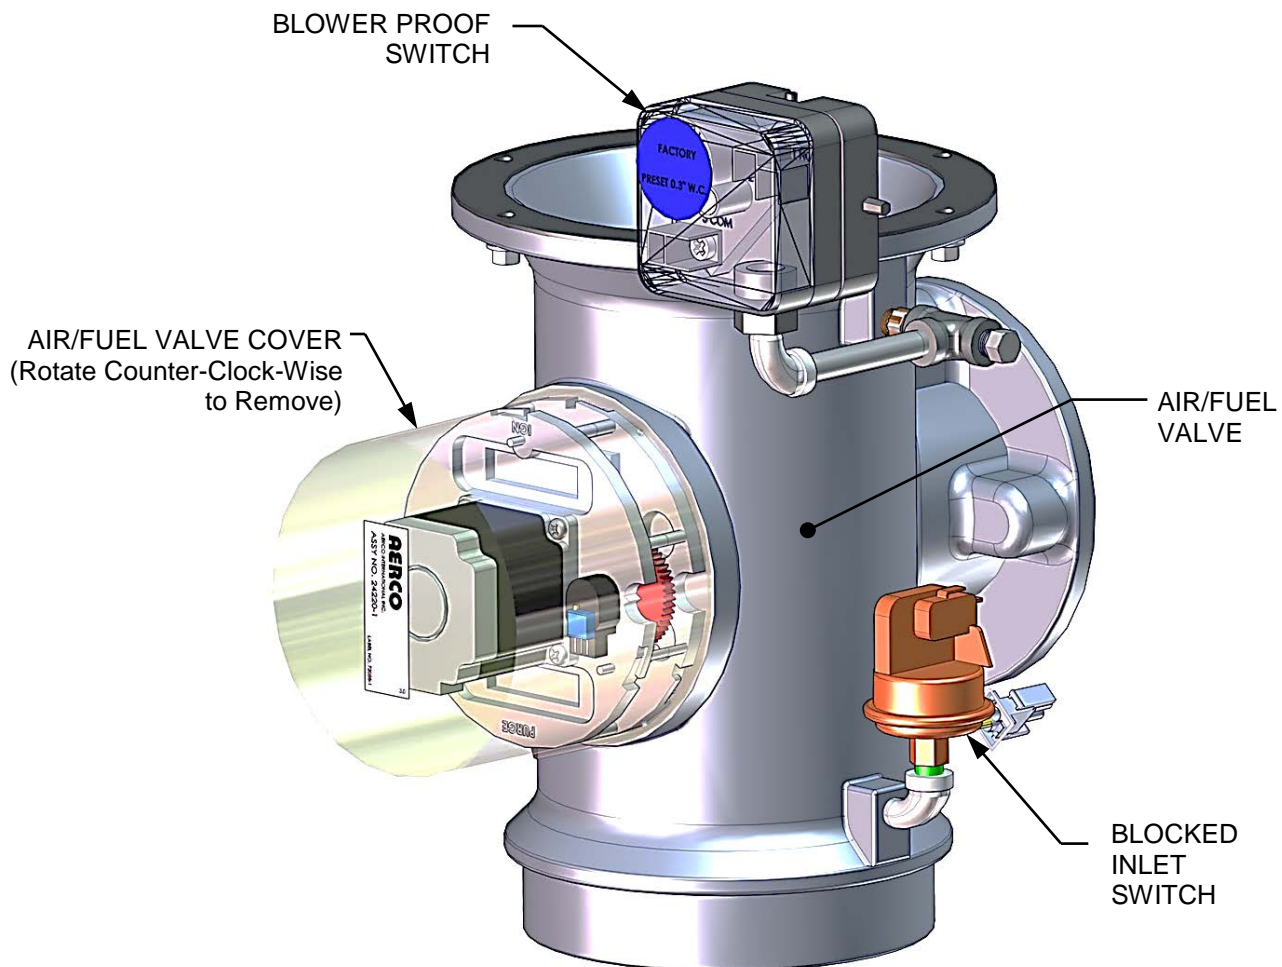

Figure 6-8: Air/Fuel Valve Cover Location
3. Remove the Air/Fuel Valve cover by rotating the cover counterclockwise to unlock it (see Figure 6-8).
3. Remove the Air/Fuel Valve cover (Figure 6-8) by rotating the cover counterclockwise to unlock and lift up to remove.